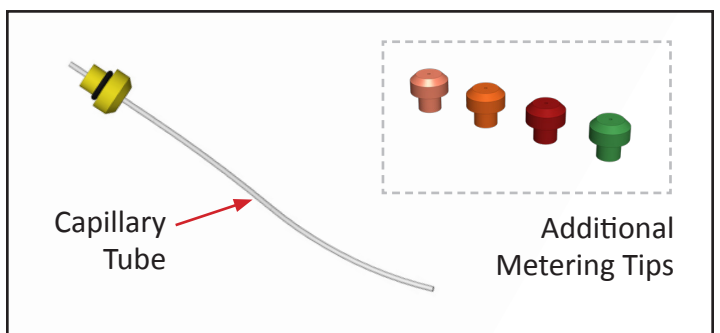

Fig. 5.3: Metering Tips and Capillary Tube
- The smallest metering tip is a yellow tip with a small tube attached [Figure 5.3].